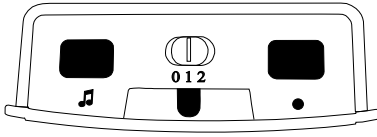

Figure 2: Receiver, upper side
Using the signal mode slide switch (in fig. 2 "0 1 2") you can select the signal mode. Kindly keep in mind that the symbols are always displayed with coloured light diodes.
- a) Keep the key »●« (fig. 2) pressed for some time. The symbols flash in sequence. Let go of the key as soon as you see the desired symbol.